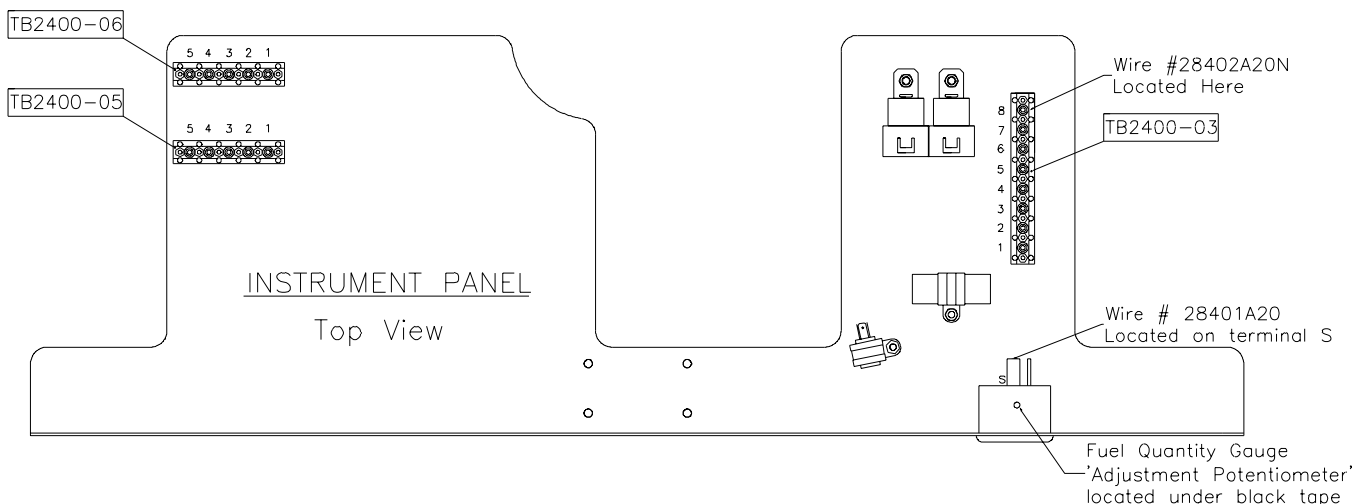

Figure 2.
- 10.2.7 Remove ground wire #28402A20N from Ground Bus TB2400-03 Terminal #8 (Ref. Figure2.).
10.2.8 Disconnect the signal wire #28401A20 from the fuel quantity gauge. Using a calibrated Ohm Meter, measure the resistance between the fuel signal wire # 28401B20 and the ground wire #28402A20N. See figure 2.
10.2.14 Adjust the fuel quantity gauge calibration potentiometer, shown in figure 2, so that the needle edge is one needle width below the 0 index mark as shown in figure 3a. Tap the fuel quantity gauge lightly, while adjusting, to remove any friction error.